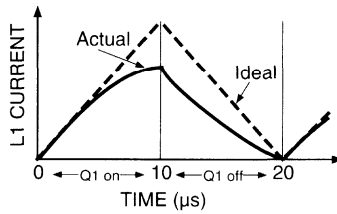

Figure 1. Inductor Current
Since pin 7 (FB) is grounded, the offset comparator U1 (and inverter) direct the analog switches to route a fraction of V_{OUT} which is dropped across R2 to appear at the inverting input of U2. Assuming V_{OUT} is low (for example, $< 5.0V$ if using the MIC631) U2's output will be high, gating Q1 ON when the oscillator is low. V_{IN} is then impressed across L1 with D1 reverse biased. L1's current versus time will ideally be a ramp (see figure 1) whose value can be found from equation 1. Because of the non-zero ON resistance of Q1, which is dependent on V_{OUT} plus L1's winding resistance, the actual circuit current may take an exponential form (figure 1).
After $10\mu s$ the oscillator goes high, terminating Q1's gate drive, causing its drain voltage to rise. The energy stored in L1 will cause Q1's drain voltage to exceed V_{IN} , forward biasing D1 increasing V_{OUT} proportional to the energy stored. L1's discharge current versus time is given by equation 2 and is shown in figure 1.